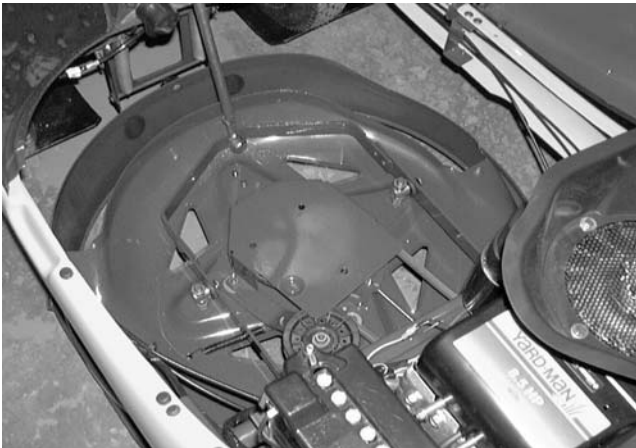

Figure 8-28.
2. Raise the hood and remove the grass bag assembly and discharge chute. See Figure 8-28.